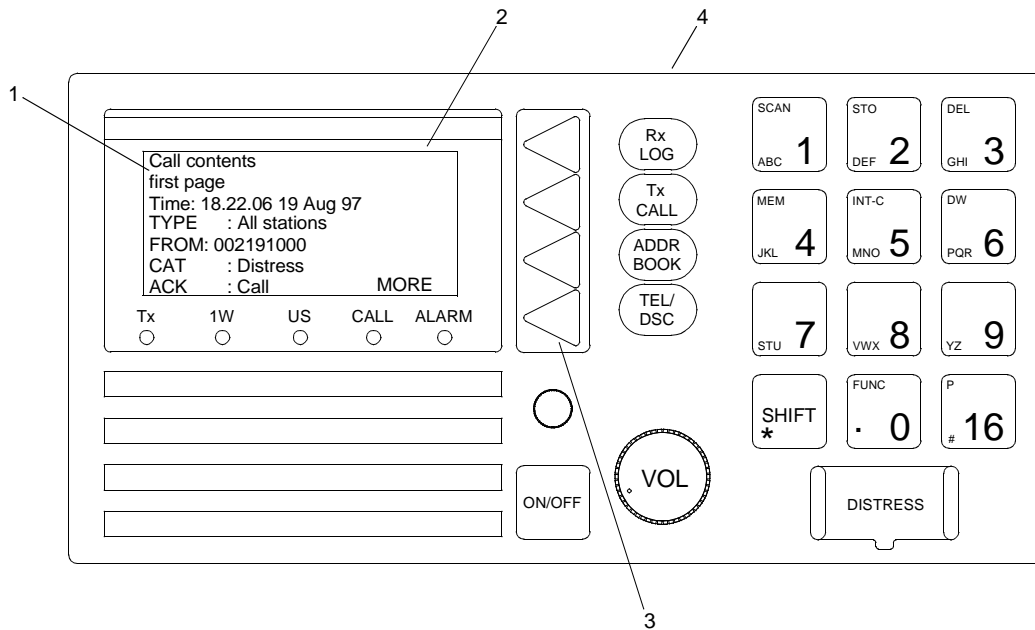
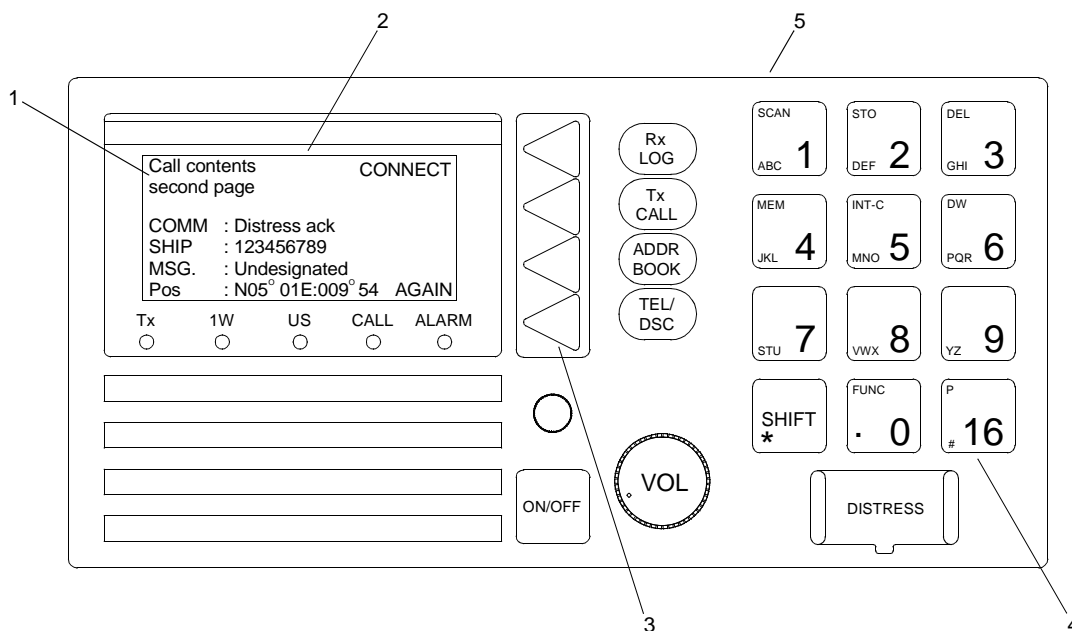

Figure 2. Call Contents First Page Screen
Figure 3. Call Contents Second Page Screen
3. Verify the Call contents first page screen (figure 2, item 1) appears in the LCD display (figure 2, item 2).
4. Press the soft key (figure 2, item 3) to select MORE on the VHF-DSC transceiver (figure 2, item 4).
5. Verify the Call contents second page screen (figure 3, item 1) appears in the LCD display (figure 3, item 2).
6. Press the soft key (figure 3, item 3) to select AGAIN and return to the Call contents first page screen (figure 2, item 1).
7. Press the 16 key (figure 3, item 4) on the VHF-DSC transceiver (figure 3, item 5).